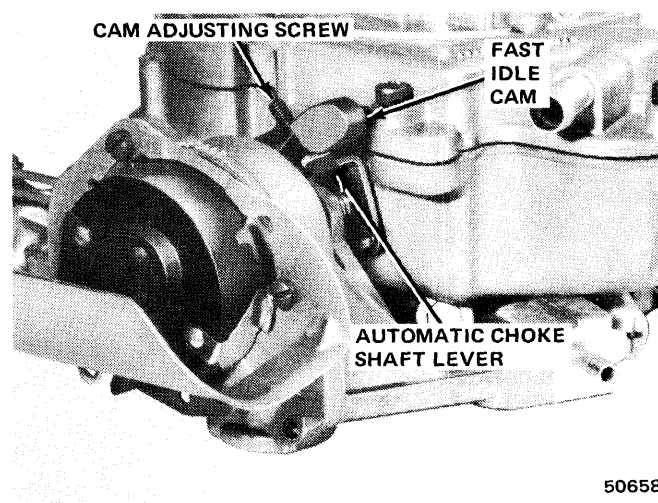

Fig. 4-135 Indexing Choke Plate
(1) Loosen choke lever attaching screw (turn clockwise). Pry lever off choke shaft far enough to allow choke valve to turn.
(2) Back out cam index adjusting screw until screw no longer touches automatic choke shaft lever (fig. 4-135).
(3) Loosen choke cover attaching screws and rotate cover 90 degrees counterclockwise so that automatic choke shaft lever touches fast idle cam. Tighten one choke cover attaching screw.
(4) Turn cam index screw until it just touches the automatic choke shaft lever and then turn an additional 6 to 7 turns.
(5) Manually close choke plate and tighten choke shaft lever attaching screw.
(6) Adjust initial choke valve clearance and fast idle cam linkage.
(7) Set choke cover to specified setting and tighten attaching screws.